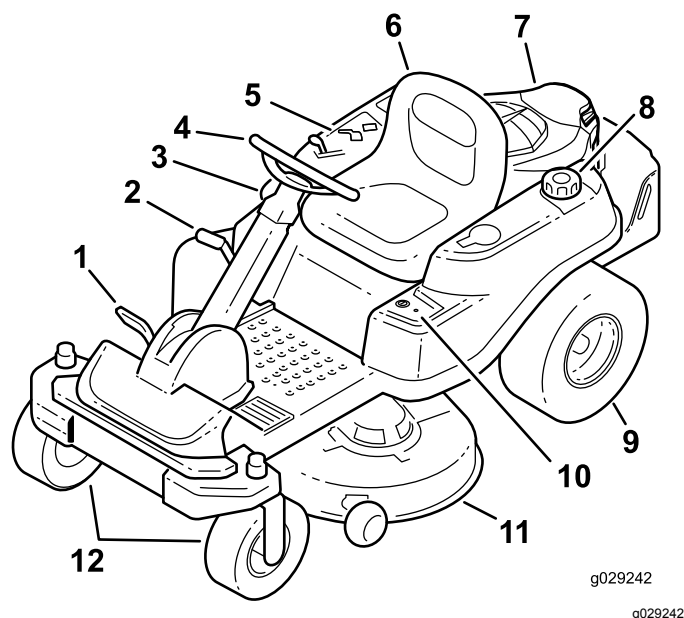
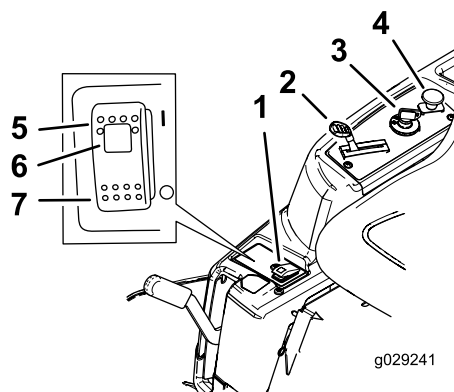
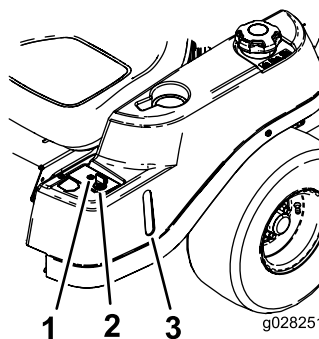

Figure 4
Figure 5
Figure 6
Become familiar with all controls in Figure 4, Figure 5, and Figure 6 before you start the engine and operate the machine.
The ignition switch has 3 positions—Off, Run and Start. The key will turn to Start and move back to Run upon release. Turning the key to the Off position will stop the engine; however, always remove the key when leaving the machine to prevent someone from accidentally starting the engine (Figure 5).
The throttle control is variable between Fast and Slow. Moving throttle lever forward will increase engine speed and moving throttle lever to the rear will decrease engine speed (Figure 5).
The blade-control switch, (PTO), engages and disengages power to the mower blades (Figure 5).
The fuel window located on the left-hand side of the machine, can be used to verify the presence of gasoline in the tank (Figure 6).
This switch allows you to mow in reverse when it is activated. To activate it, turn the switch to on and release it after the PTO is engaged. To deactivate it, disengage the power take-off (PTO) (Figure 6).
The Operating-in-Reverse warning light will illuminate whenever the KeyChoice key is used to deactivate the operating-in-reverse interlock. It is a reminder that the interlock system is deactivated. The light goes out whenever the PTO is disengaged or the engine is shut off. When the light is on, look behind and use extra caution when backing (Figure 6).
- Pressing the SmartPark™ switch to the On position (Figure 5).